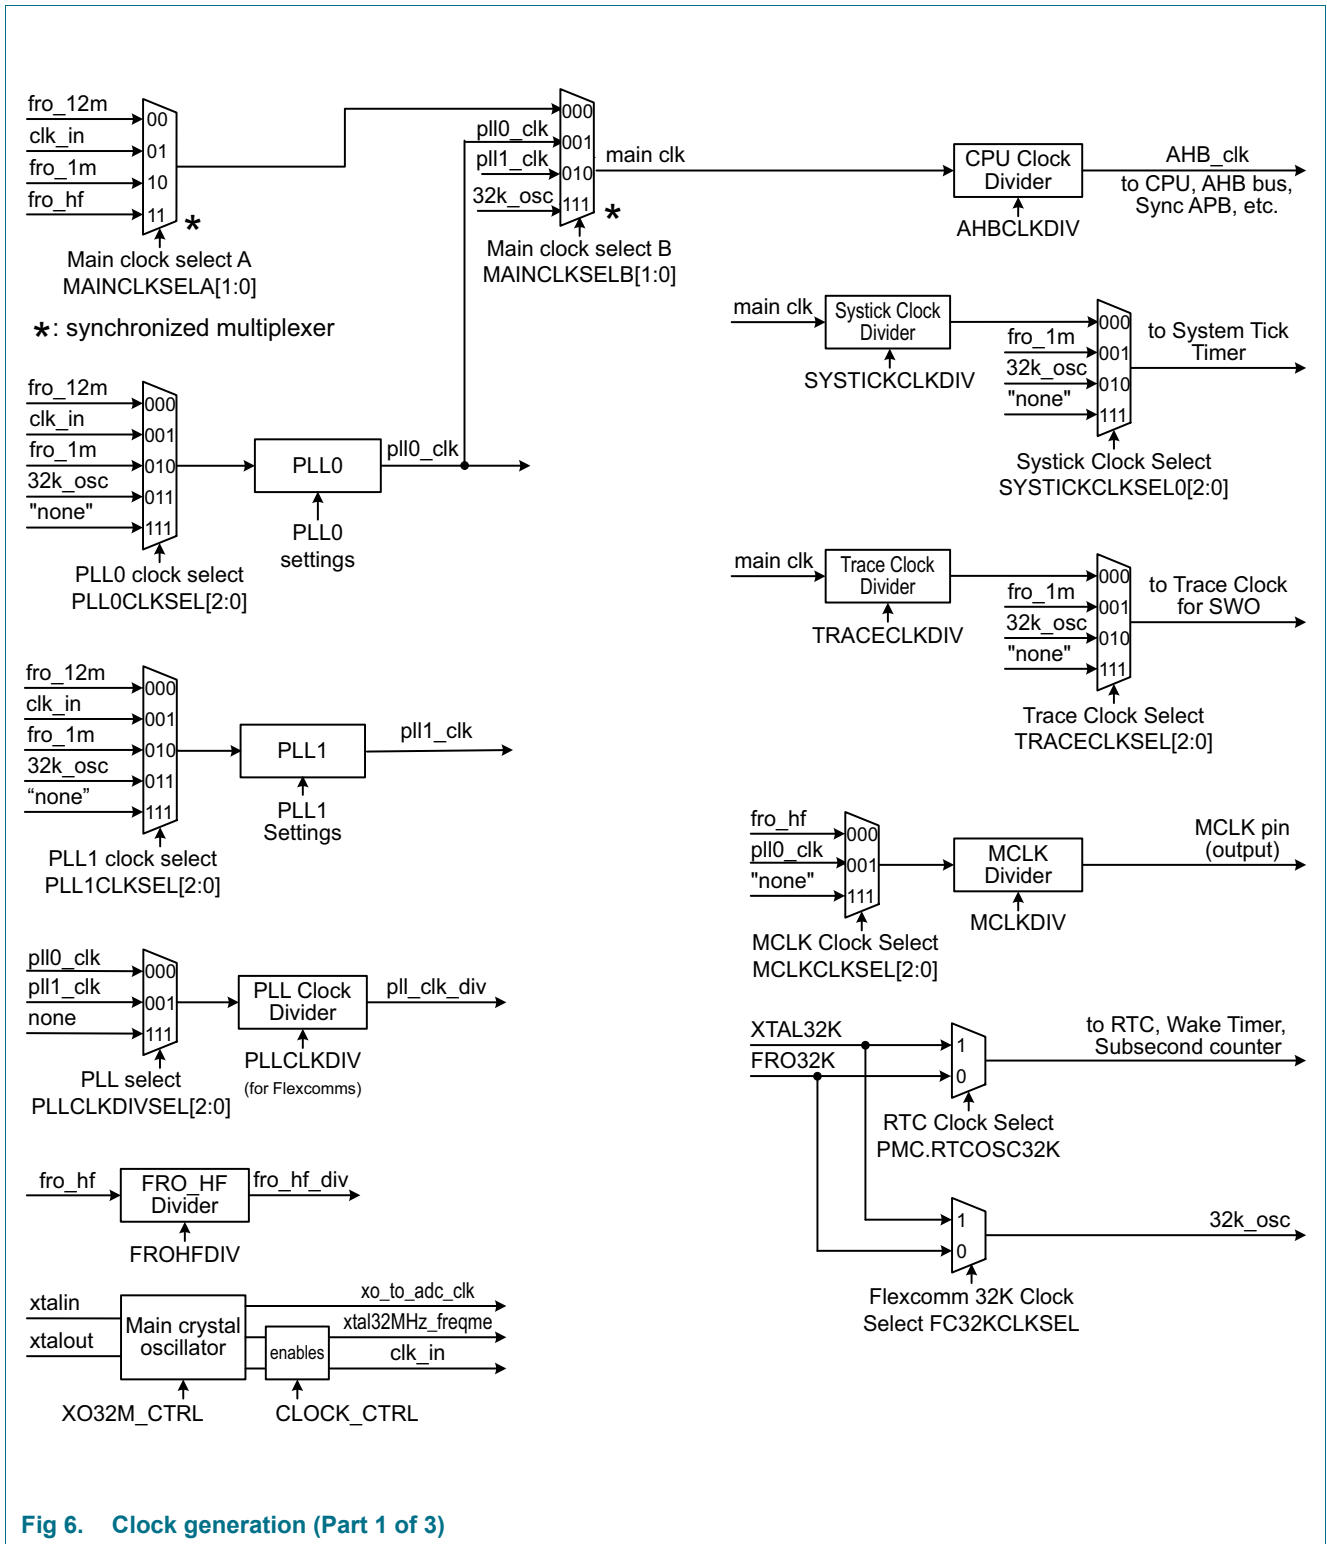
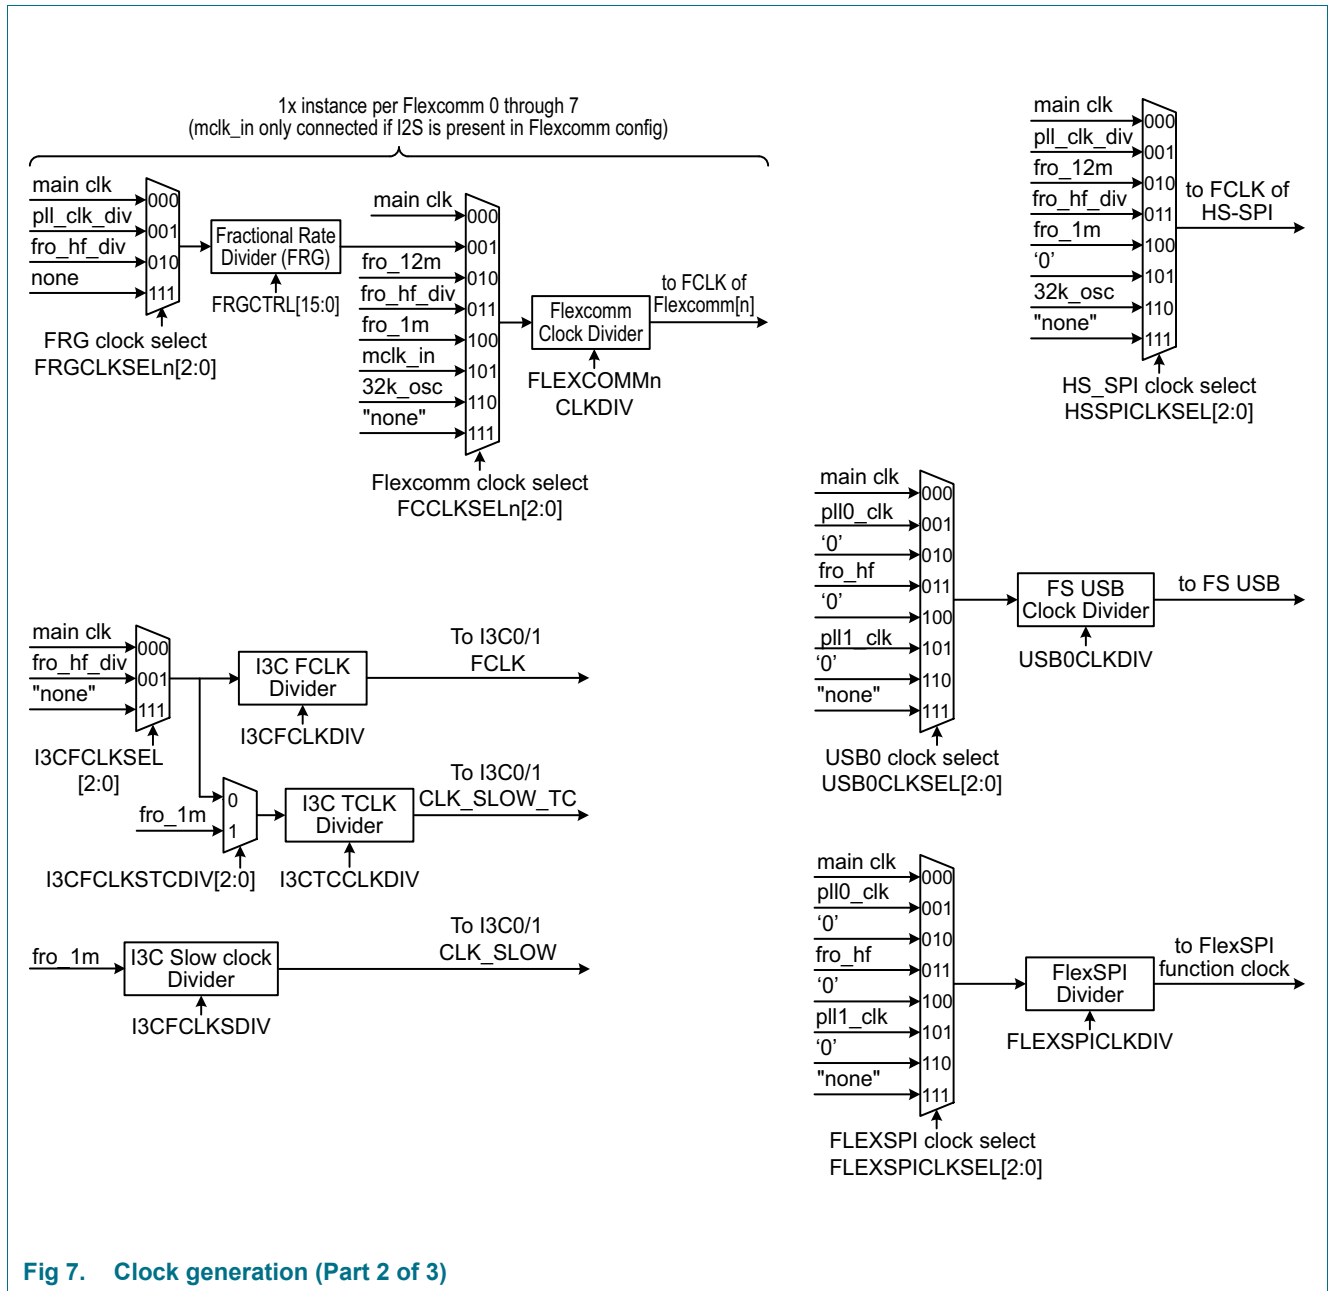

Fig 6. Clock generation (Part 1 of 3)
Fig 7. Clock generation (Part 2 of 3)
The system control block facilitates the clock generation. Many clocking variations are possible. Figure 6 gives an overview of potential clock options. Figure 7 describes signals on the clocking diagram. The maximum clock frequency is 150 MHz.
**Remark:** The indicated clock multiplexers shown in Figure 6 are synchronized. In order to operate, the currently selected clock must be running, and the clock to be switched to must also be running. This is so that the multiplexer can gracefully switch between the two clocks without glitches. Other clock multiplexers are not synchronized. The output divider can be stopped and restarted gracefully during switching if a glitch-free output is needed.
frg_clk	The output of each Fractional Rate Generator to Flexcomm clock. Each FRG and its source selection is shown in <a href="#">Figure 6</a> .
main_clk	The main clock used by the CPU and AHB bus, and potentially many others. The main clock and its source selection are shown in <a href="#">Figure 6</a> .
pll0_clk	The output of the PLL0. The PLL0 and its source selection is shown in <a href="#">Figure 6</a> .
pll1_clk	The output of the PLL1. The PLL1 and its source selection is shown in <a href="#">Figure 6</a> .